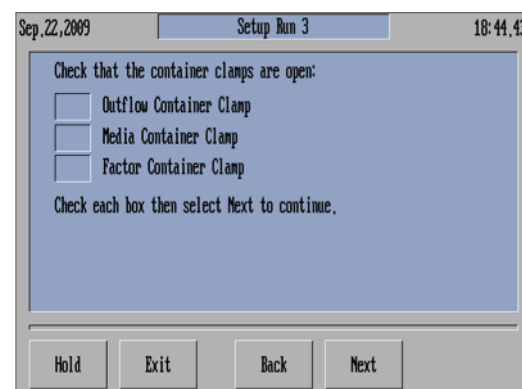

Figure 8-22: Setup Run 2 Screen
15. When the *Setup Run 3* screen is reached (figure 8-22), ensure the Media, Outflow, Factor, and Harvest containers are connected to the simplified cultureware before proceeding with the clamping instructions! The AutovaxID's on-screen instructions do not prompt the technician to connect these containers.